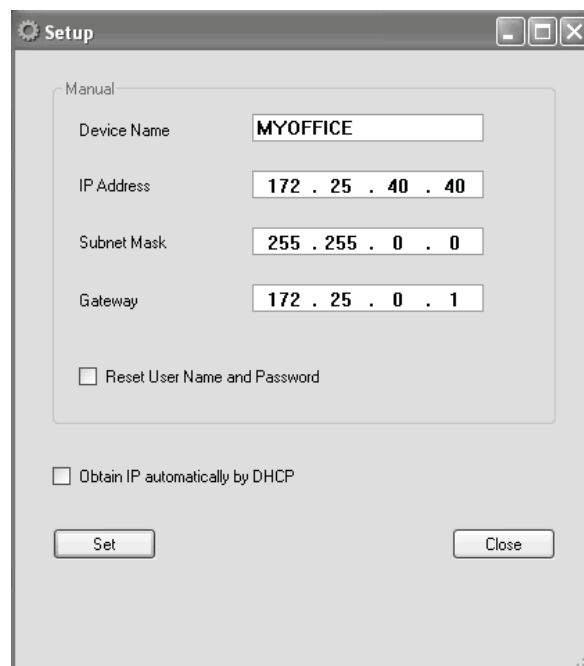
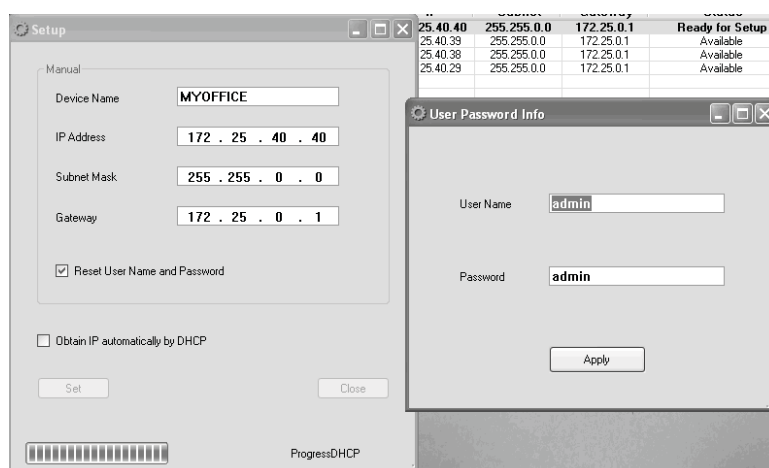

Figure 3-2 Network setup dialog box
Figure 3-4 Reset Name and Password followed by the User Password Info dialog
1. Skip step 1 of the manual setting procedure above. Follow steps 2 through 7 until you reach the setup dialog box (Figure 3-2) for the selected REA.
If the User Name and/or Password settings are lost, they can be reset to the default values in the Network Setup dialog box (Figure 3-2). By marking 'Reset Name and Password' and then clicking 'Set', these parameters are reset to the default. This brings up the 'User Password Info' dialog box (Figure 3-4) to set new values. Type in a new User Name and Password, then click 'Apply' to change.